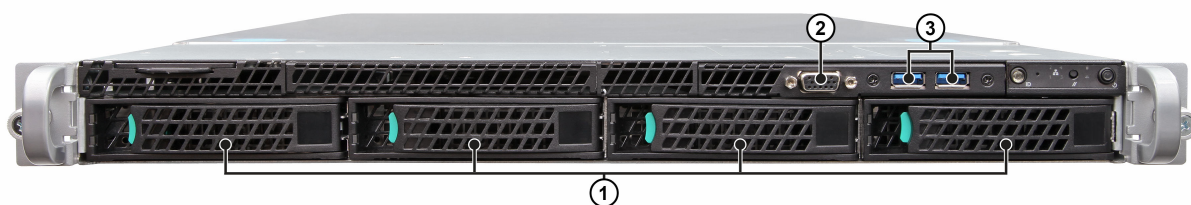
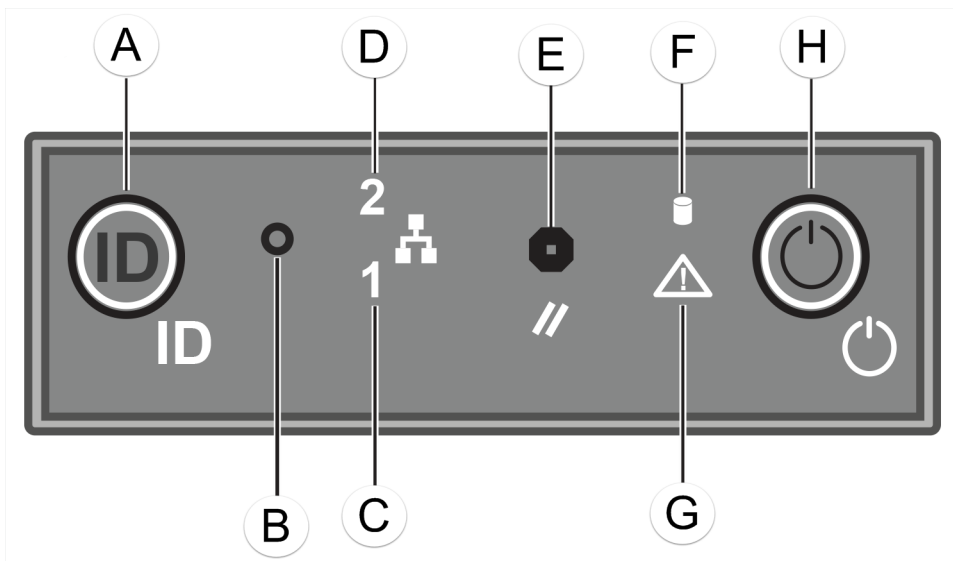

Figure 2: C5215 Front Panel Layout
Figure 3: C5215 Front Control Panel
- 5 Power on the appliance. The power button is on the front control panel as shown in Figure 2 and Figure 3.